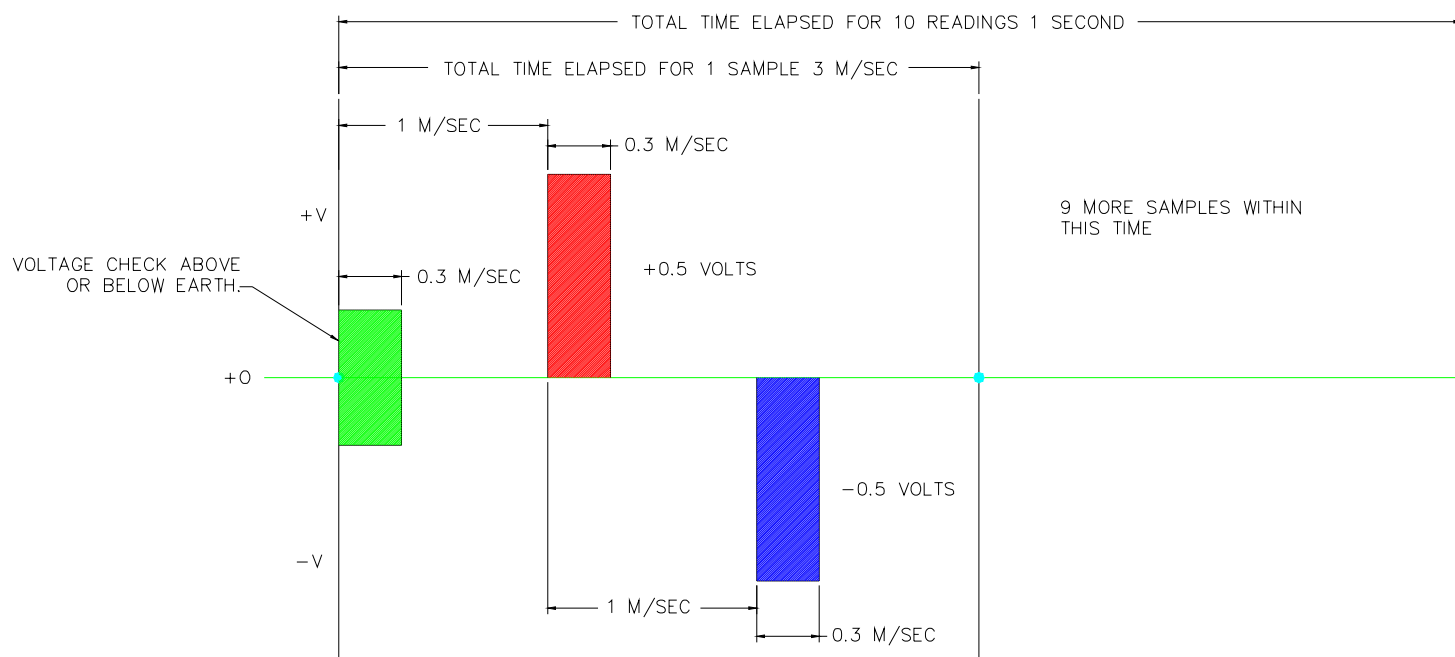

figure 1.
- 3) After the settlement period a 5 second measurement routine is carried out to establish the current T.D.S. level, (see page 5.12.6.1, figure 1) schematic for measurement and sampling sequence.
- 7) When the boiler water sample is measured as above the required T.D.S level item 1) is repeated.